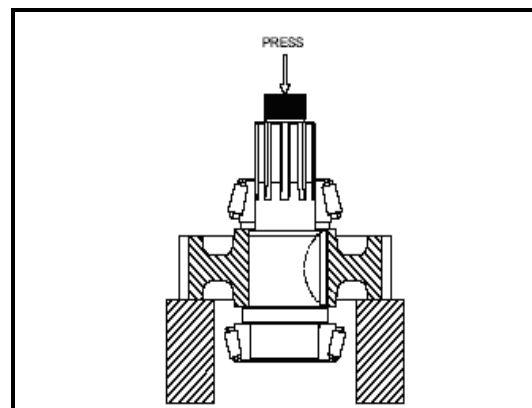

Figure 22
3. Place the shaft assembly in a press so that the rear of the gear is supported and the press arbor bears against the threaded end of the shaft. See **Figure 22**. Remove the front bearing cone assembly, the spacer washer, and the gear.